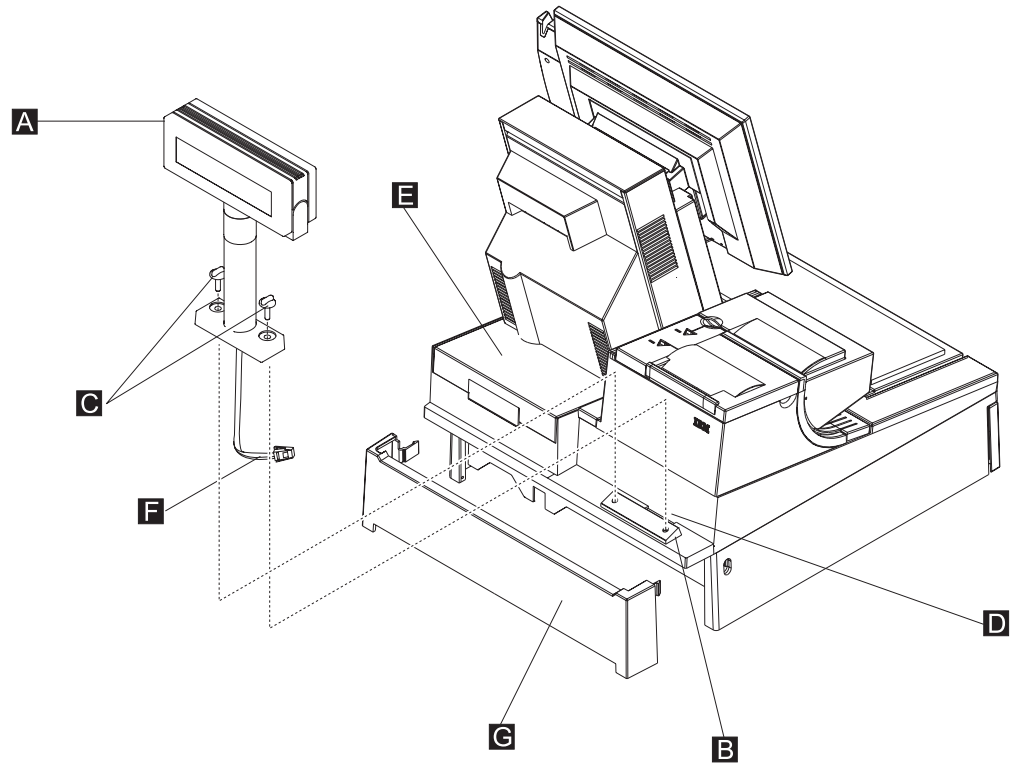

Figure 43. Installing the distributed customer display onto the integration tray
- a. Route the display cable **F** through hole **D**, as shown in Figure 43. You might need to place the display on its side to connect the display cable to the system unit rear connector panel.